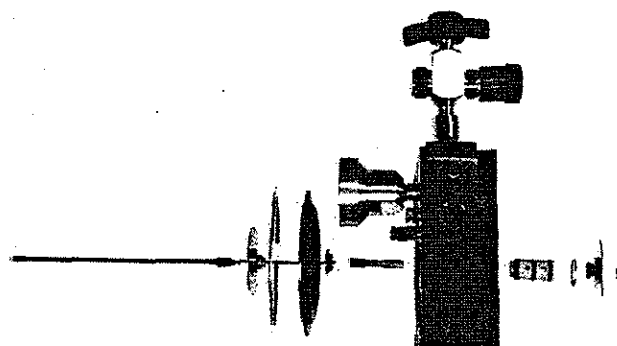

FIGURE 28
- Insert ceramic spindle carefully into bushing. Ensure that the long shoulder of the spindle is on the Pressure Compartment side (Fig. 28).
- Install the small washer (P/N 0135), sensitivity armature (P/N 0327), diaphragm (P/N 0714) and spacer bumper with O-ring (P/N 0124) onto the hand timer rod shaft (P/N 0346) (Fig. 28).
- Carefully insert the shaft into the ceramic switch spindle from the Ambient side (Fig. 28).